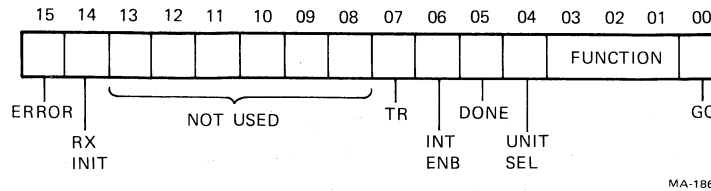

Figure 4-17 RXCS Format (RX11, RXV11)
4.2.2.1 RXCS – Command and Status (177170) – Loading this register while the RX02 is not busy and with bit 0=1 will initiate a function as described below and indicated in Figure 4-17. Bits 0–4 are write-only bits.